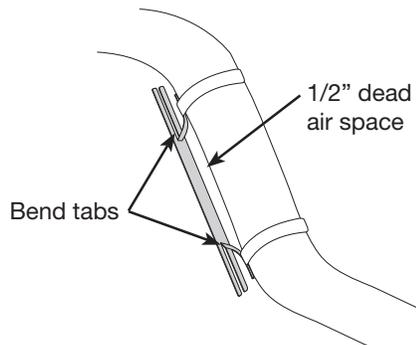
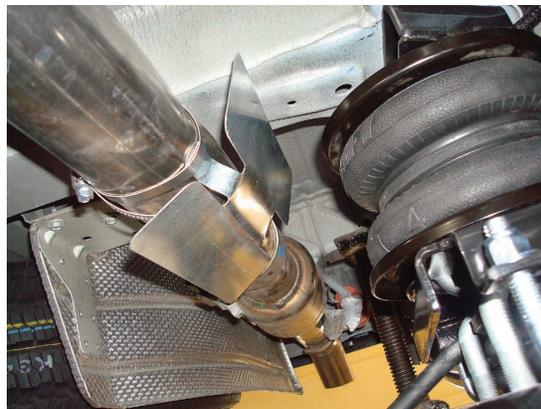

fig. E.5
fig. E.6
1. Bend tabs to provide a dead air space between exhaust pipe and heat shield (Fig. E.5). Attach the heat shield to the exhaust pipe using the clamps. Bend the heat shield for maximum clearance to the air spring. Figure E.6 shows the heat shield installed.